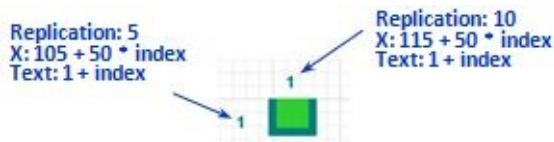

Figure 12.41 Seat and row numbers – replicated text shapes
1. Open the **General** palette and drag the **Variable** on the canvas as shown in Figure 12.41. Give the new variable the name *sold*.